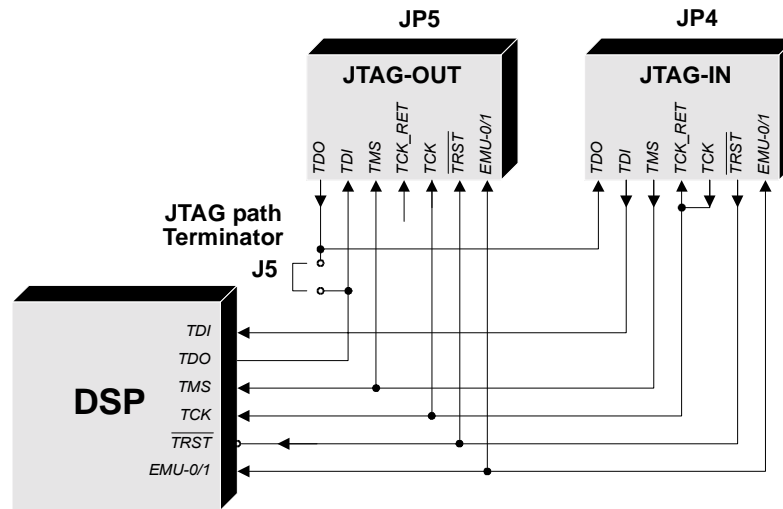

Fig. 2-17. On-board JTAG path for connection external JTAG emulator to *TORNADO-62/67*.
**TORNADO-62/67** on-board JTAG path for connection to external TI XDS510 or MicroLAB' **MIRAGE-510DX** JTAG emulator is presented at figure 2-17 (see also fig. 2-1 and fig. A-1) and comprises of JTAG-IN connector (JP4), TMS320C6x JTAG port, JTAG-OUT connector (JP5) and JTAG path terminating jumper (J5).